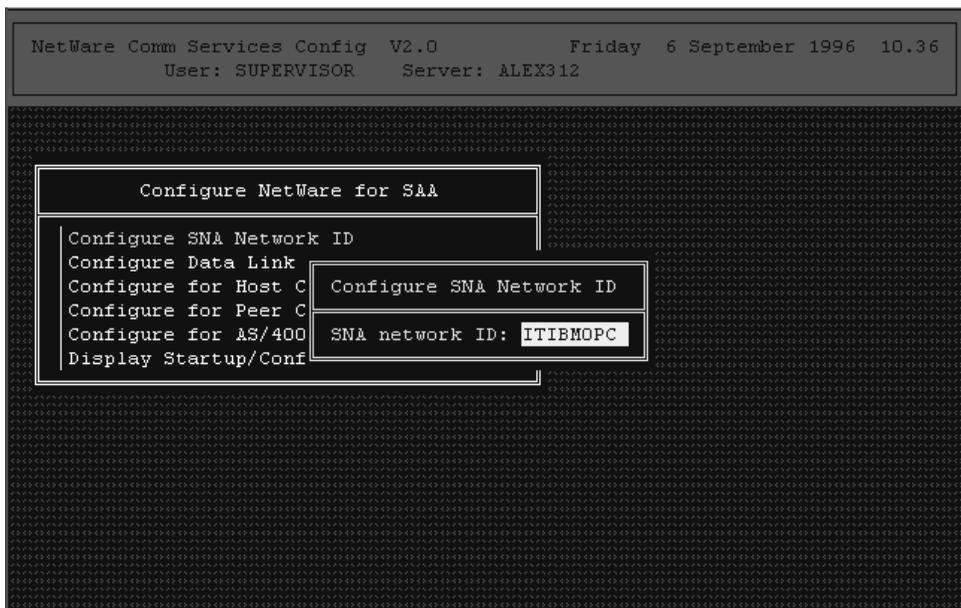

Figure 19. Configuring SNA network ID
- 1 Enter the SNA network ID of your TME 10 Software Distribution for NetWare server, as shown in Figure 19.